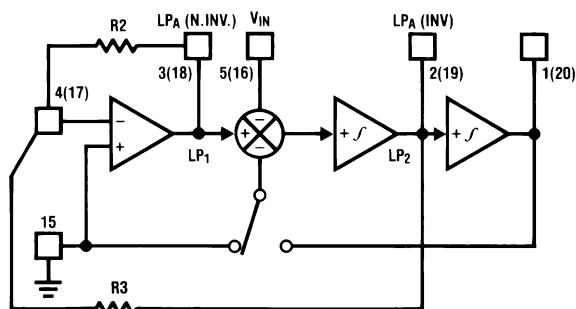

Figure 49. MODE 6b
8.4.1.10 MODE 6b: Single-Pole LP Filter (Inverting and Noninverting) (See Figure 49)
By connecting pin 12 to the appropriate DC voltage, the filter center frequency, f_0 , can be made equal to either $f_{CLK}/100$ or $f_{CLK}/50$. f_0 can be very accurately set (within $\pm 0.6\%$) by using a crystal clock oscillator, or can be easily varied over a wide frequency range by adjusting the clock frequency. If desired, the f_{CLK}/f_0 ratio can be altered by external resistors as in Figure 43 through Figure 49. This is useful when high-order filters (greater than two) are to be realized by cascading the second-order sections. This allows each stage to be stagger tuned while using only one clock. The filter Q and gain are set by external resistor ratios.